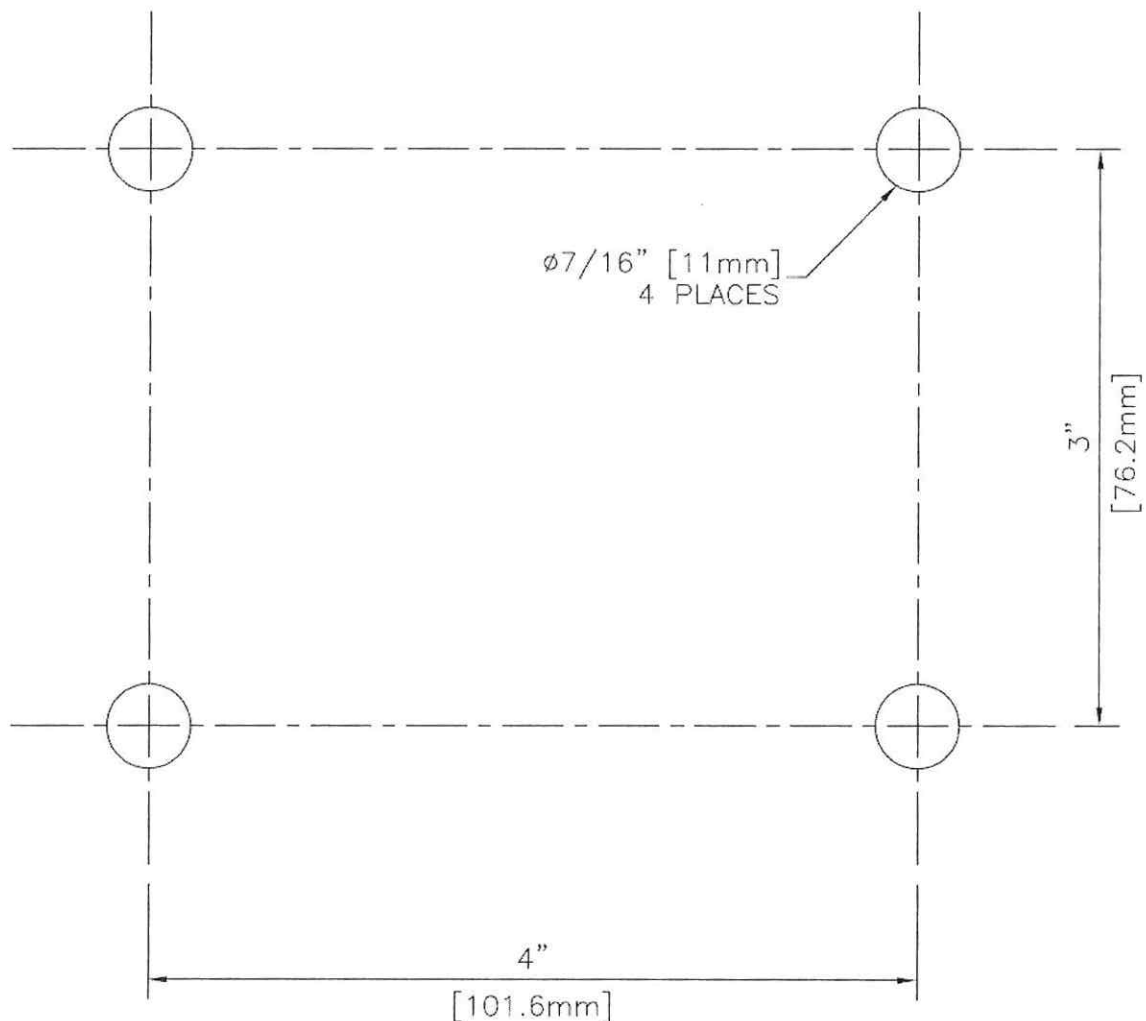
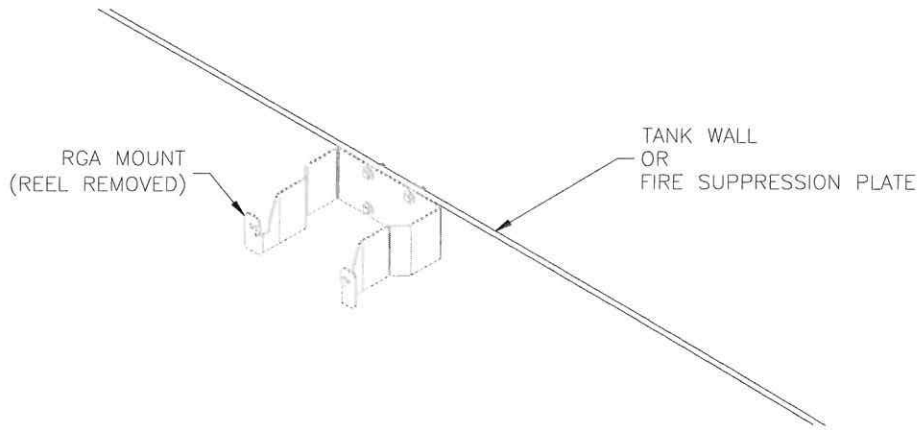

Figure 3: RGA Mount – Hole Dimensions
Figure 4: Mounting the RGA Mount to the Tank Wall
Mounting the RGA directly to the Tank Wall – Create four (4) 7/16 in. [11mm] diameter holes in the tank wall according to Figure 3 below, RGA Mount – Hole Dimensions. Scrape paint and rust from around the drilled holes and under the RGA Mount to bare metal. Apply Lectra Shield to both sides of the holes and all bare metal surfaces to prevent rusting. Using the supplied hardware, secure the RGA Mount and Reel assembly to the tank wall and apply Lectra Shield to the hardware after assembly. Alternately, the RGA Reel may first be separated from the Mount by removing the 3/8" bolts on either side of the Reel and the Mount may be attached to the tank wall separately from the Reel; see Figure 4, Mounting the RGA Mount to the Tank Wall.